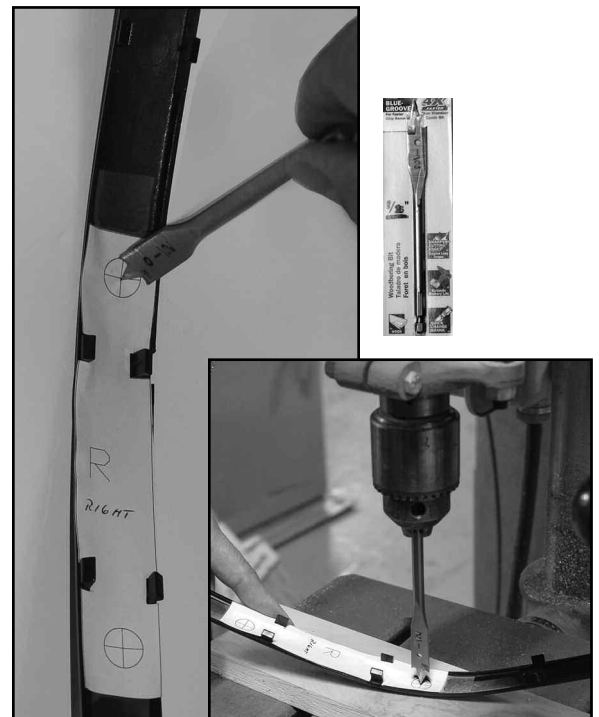

Figure 5
6. With markings on Template facing up, align Template between notches on inside of trim strip. Tape Template into position. (Tape) **Figure 5**
7. Make a pilot mark on strip at center of cross marks. (Drill Bit Provided) **Figure 5**
8. Carefully drill each hole using a slow speed. A drill press is preferred, however a hand drill can be used. Place the trim strip on a clean flat piece of wood for support while drilling. Use caution as required by the use of power equipment. Remove the paper template. (Drill Bit Provided and Drill) **Figure 5**